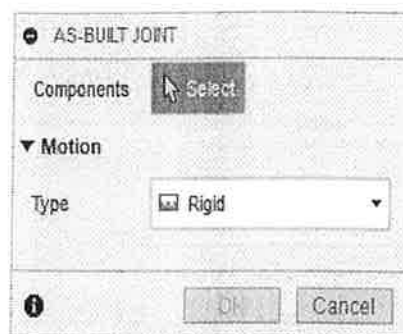

Figure 16-24
- In the ASSEMBLE panel, click  (As-built Joint). The AS-BUILT JOINT palette opens, as shown in Figure 16-24.